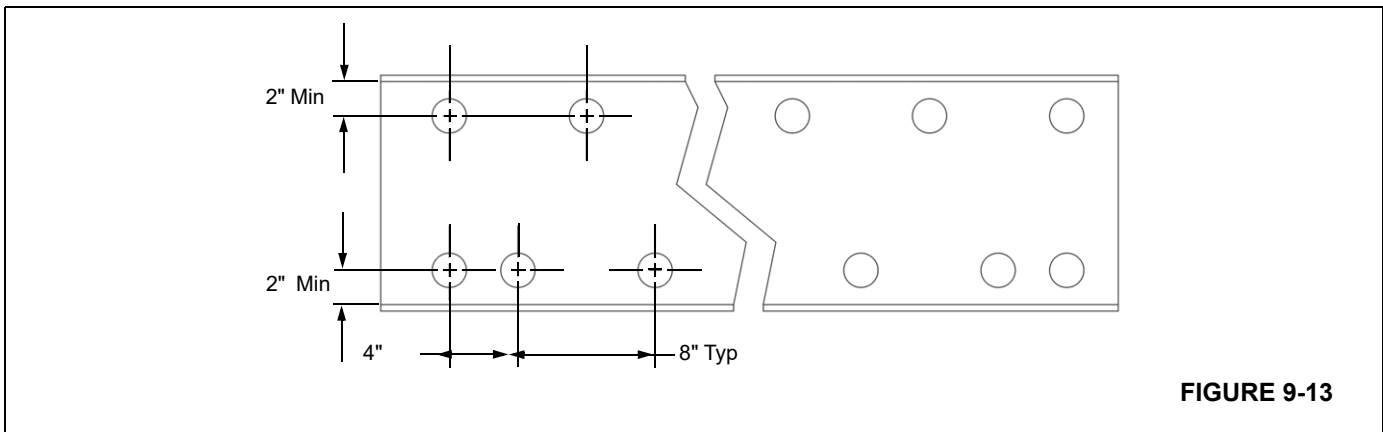
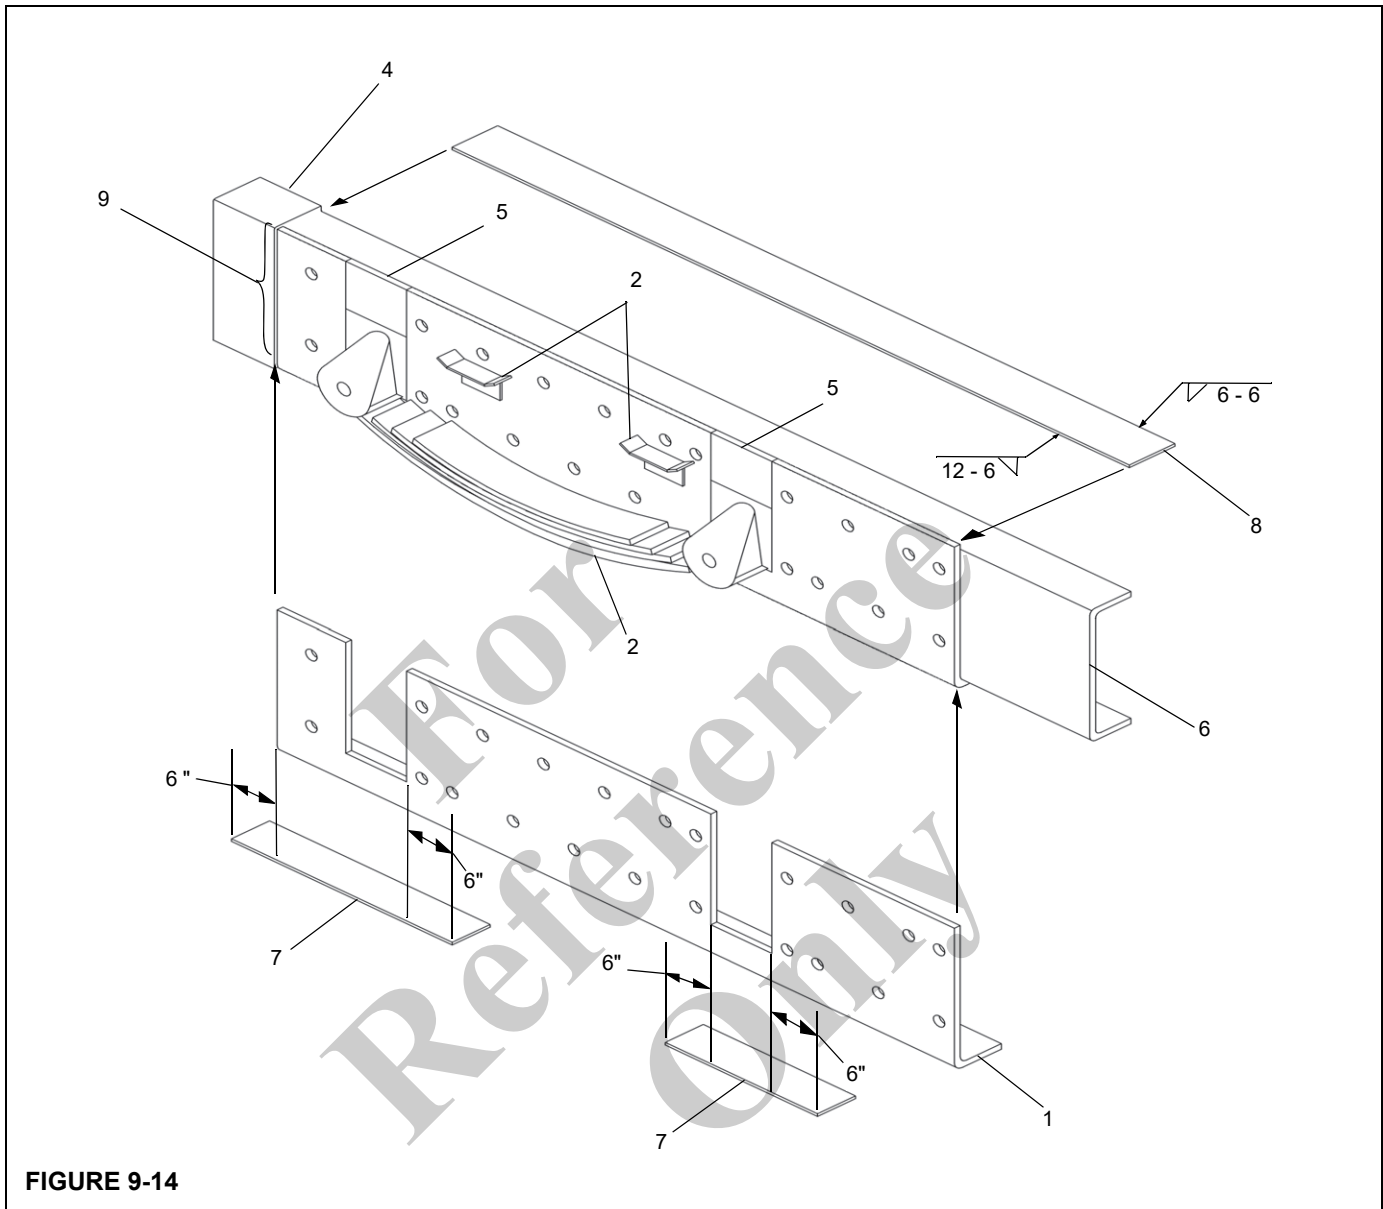

FIGURE 9-13
FIGURE 9-14
See Figure 9-13 for recommended drilling and bolting locating dimensions. Use 5/8", Grade 8 bolts, drill holes to 39/64" (15.5mm) diameter, drive fit bolts and torque according to Torque Chart in Section One. Note that all dimensions are in inches (millimeter).
7. If the frame through the rear suspension does not meet the minimum specifications for RBM and section modulus, it can be reinforced by adding a reinforcing angle as shown in Figure 9-14.
Butt the reinforcing angle (1, Figure 9-14) up against the forward reinforcing (4) of the suspension. Mark the areas that require cutting (5) so that the angle slides up around the spring hangers (3) and against the existing truck frame (6) and forward reinforcing (4).
Torch out the marked areas in the long leg of the angle deep enough so that the angle can be slid up from the underneath the frame to contact either existing truck frame (6, Figure 9-14) or spring hanger brackets (3) (if they extend down below the existing truck frame).
8. If reinforcing angle (1, Figure 9-14) is welded to truck frame, cut out plug weld hole pattern as in Figure 9-12.
Slide the reinforcing angle (1, Figure 9-14) up from the bottom, butt it to existing forward reinforcing (4) and weld (9) rear suspension reinforcing to forward reinforcing.
Position bar (8) on top of truck frame (6) and skip weld as noted in Figure 9-14.
9. If reinforcing angle (1, Figure 9-14) is to be bolted on, drill hole pattern according to Figure 9-13 and install bolts.
Reinforce spring hanger cut outs (5, Figure 9-14) and the weld area, suspension reinforcing to forward reinforcing by adding bars (7) and (8).
3. Secure two anchor bars (2, Figure 9-13) to each left and right side upper mounting plates (1), view A.
Secure one anchor bar (2, Figure 9-13) to each left and right center upper mounting plates (1a), view B.